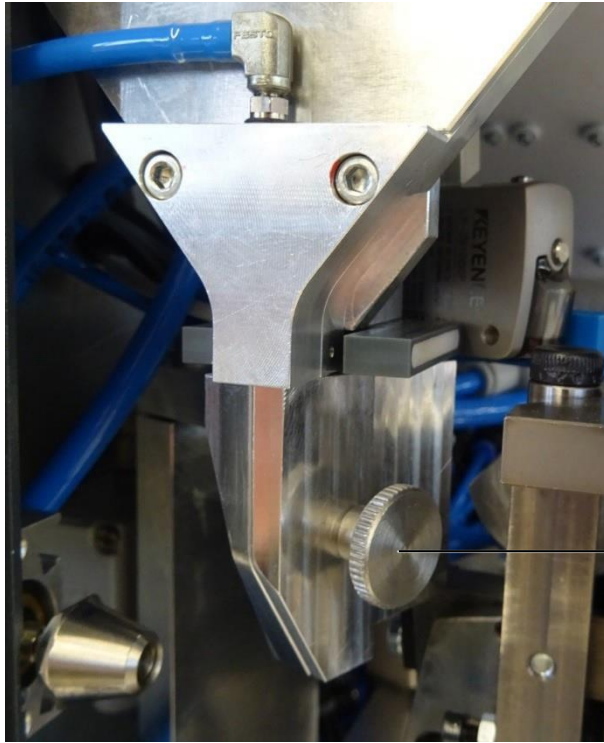

Fig. 17: Downpipe
- Remove the cover of the downpipe by loosening the knurled screw (fig. 17, item 1).